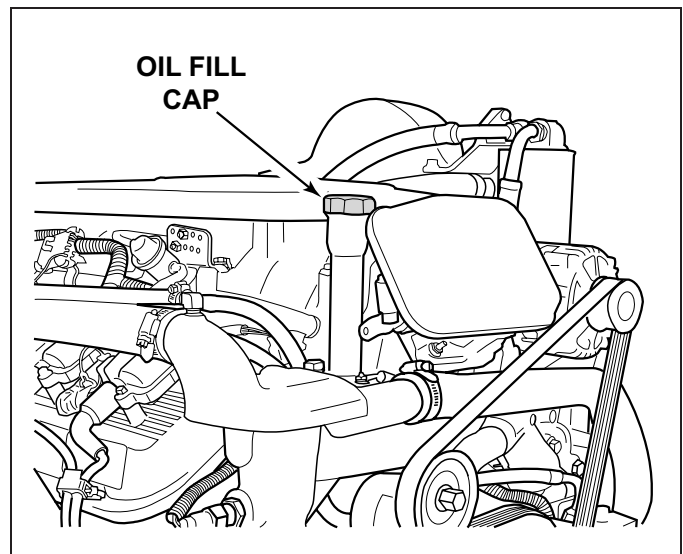

Figure 11-22 Engine Oil Fill (8.1L)
4. Fill the engine with the recommended oil, see OIL REQUIREMENTS, through the oil fill location on the valve cover (Figure 11-22).